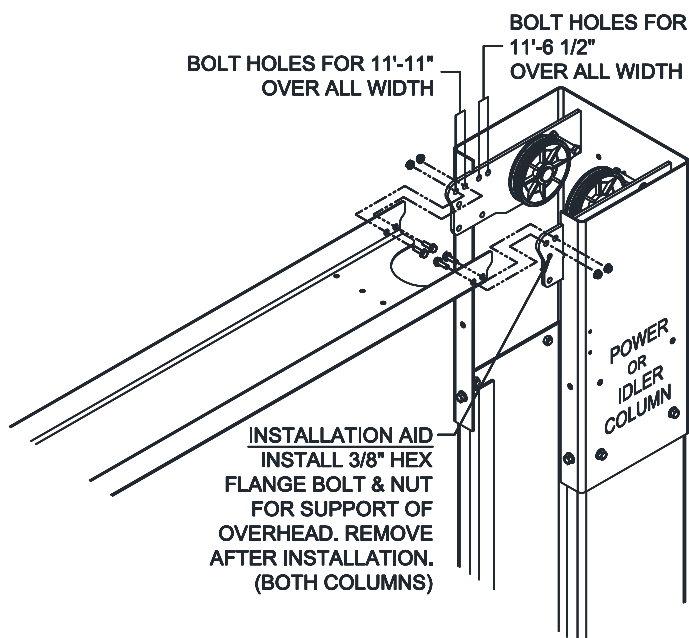

**Fig. 5 – Column Shimming**
**Complete steps 10 thru 12 for the five (5) exposed anchors (one at a time) around each column.**
- 15) Repeat steps 10 thru 12 for the two (2) anchors under each carriage.
- 16) Shim both columns to plumb using the shims provided as shown in **Fig. 5**. DO NOT shim more than 1/2" at any given point. Use a level no less than 24" in length to plumb columns.
- 21) Check idler column shimming. Use additional shims (see **Fig. 5**) to remove any gaps that may have been created while installing overhead beam. Tighten anchor bolts and re-check column for plumb. Torque to 150 foot pounds.